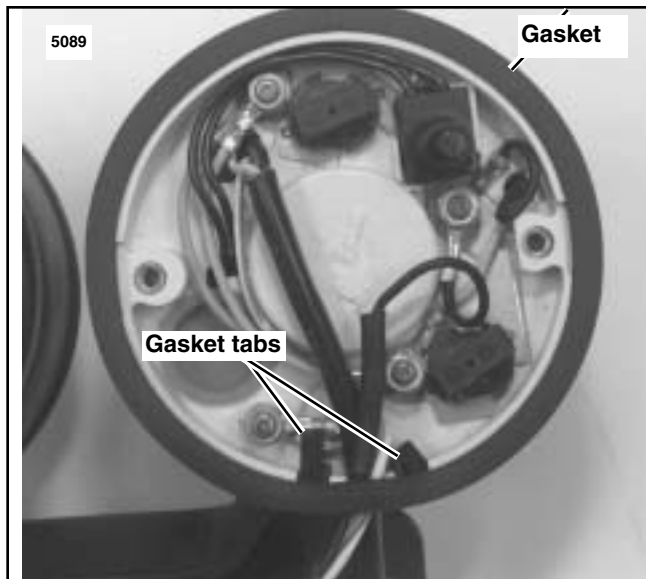

Figure 5. Back of Speedometer
- 6a. See Figure 5. Place wires from speedometer through front of left opening in double bracket. Lubricate the front and rear gaskets with isopropyl alcohol or glass cleaner to ease installation.
6a. See Figure 5. Place wires from speedometer through front of left opening in double bracket. Lubricate the front and
- 6a. See Figure 5. Lubricate the front and rear gaskets with isopropyl alcohol or glass cleaner to ease installation. Insert speedometer into the front of left opening in double bracket.